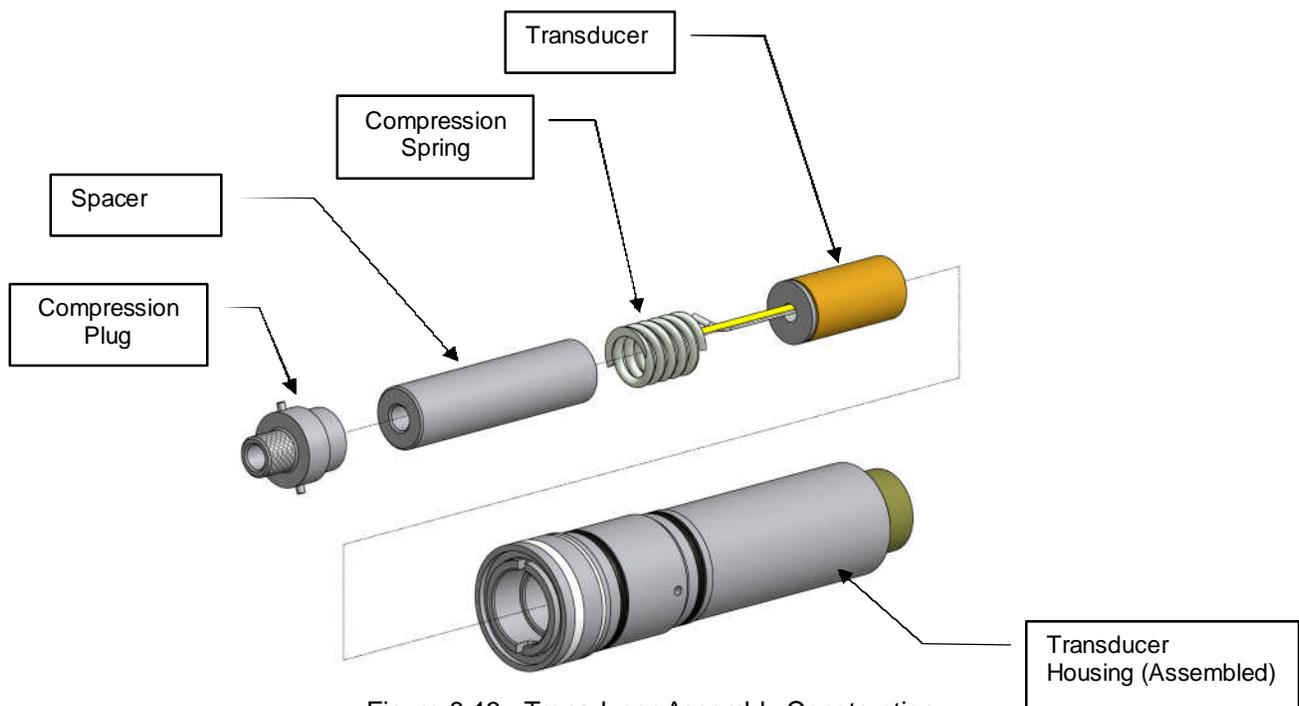

Figure 8.13: Transducer Assembly Construction
3. Disconnect the transducer leads from the transformer terminal block. If necessary, remove the transformer circuit board. Remove the compression plug retaining the transducer (Figure 8.13) Push in and turn clockwise to release.